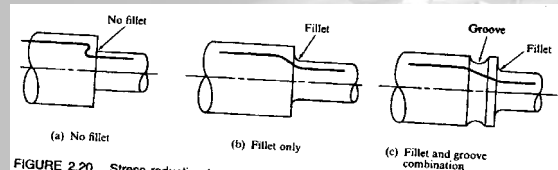

FIGURE 2.20 Stress reduction by use of fillet and groove
- Make all transitions as gradual as possible. (Fig. 2.20)
Stress concentration Fig. 2.20)